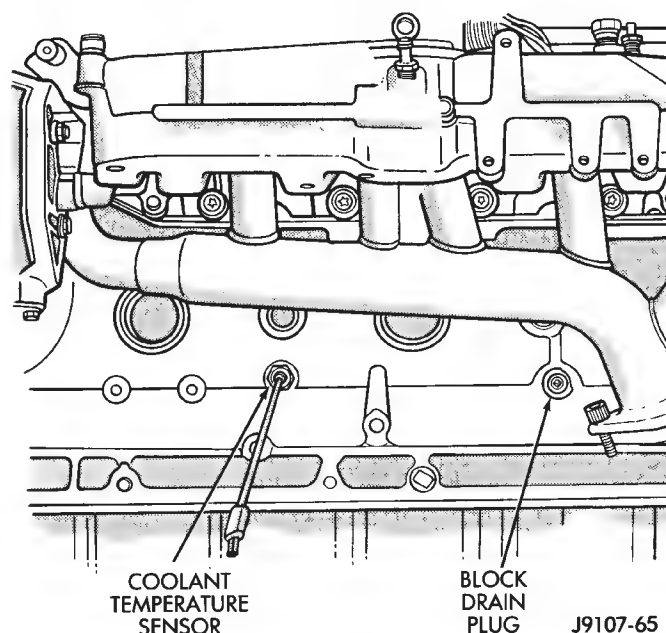

Fig. 19 Draining Coolant—4.0L 6-Cylinder Engine
(b) On 4.0L 6-cylinder engines by removing the drain plug or coolant temperature sensor on the left side of the block (Fig. 19).
(2) For access to radiator draincock, remove radiator grille mounting screws and remove grill. Refer to Group 23, Body for procedures.
(3) Attach one end of a 24 inch long X 1/4 inch ID hose to the radiator draincock. Put the other end into a clean container. Open draincock and drain coolant from radiator.
(4) Drain coolant from engine by removing the drain plug and coolant temperature sensor on left side of block (Fig. 19).